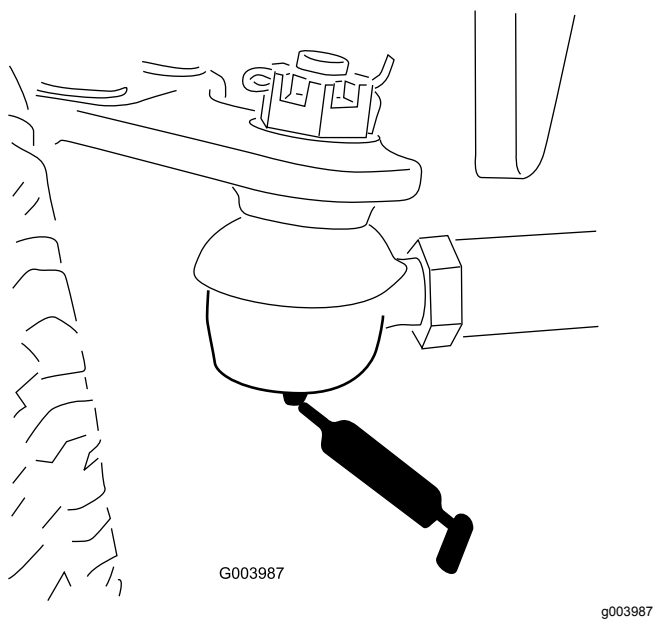

Figure 33
- Rear axle tie rod (2)—Figure 33